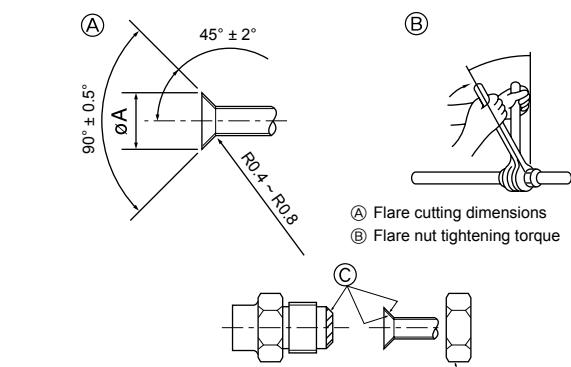

Fig. 4-1
- Apply thin layer of refrigerant oil to pipe and joint seating surface before tightening flare nut. ④ (Fig. 4-1)
- Use two wrenches to tighten piping connections. ⑤ (Fig. 4-1)
- Apply refrigerating machine oil over the entire flare seat surface. ⑥ (Fig. 4-1)
- Use the flare nuts for the following pipe size. ⑦ (Fig. 4-1)
④ (Fig. 4-1)
⑤ (Fig. 4-1)